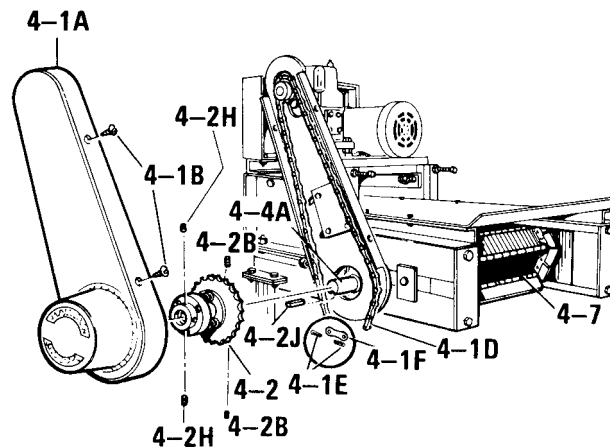

Figure 24: Typical drive disconnection.
1. Remove the chain guard (4-1A) by disengaging four screws (4-1B)[See Figure 24]. Disconnect the drive chain (4-1D) by locating the master link (4-1F). This is where the chain is disconnected.
2. Remove the two set screws (4-2B) which secure the Safety Clutch (4-2) to the head shaft assembly (4-4) and remove clutch, releasing the key (4-2J).
7. To remove the reducer, disengage four mounting bolts. 1.Remove the chain guard (4-1A) by disengaging four screws (4-1B)[See Figure 24]. Disconnect the drive chain (4-1D) by locating the master link (4-1F). This is where the chain is disconnected.